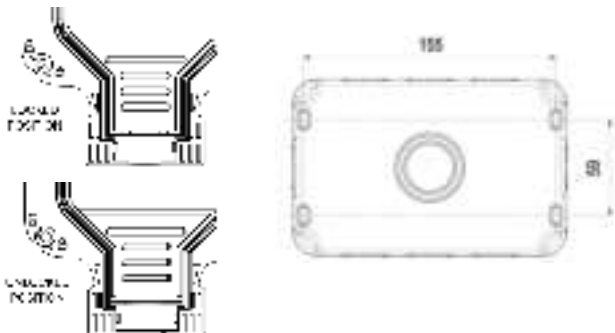

Fig. 1
- Remove the front assembly from the backbox with an aid of a screwdriver and turn to the unlocked padlock symbol on the casing and carefully lift off the gasket. Drill the required number of fixing holes in the backbox (see Fig. 1)